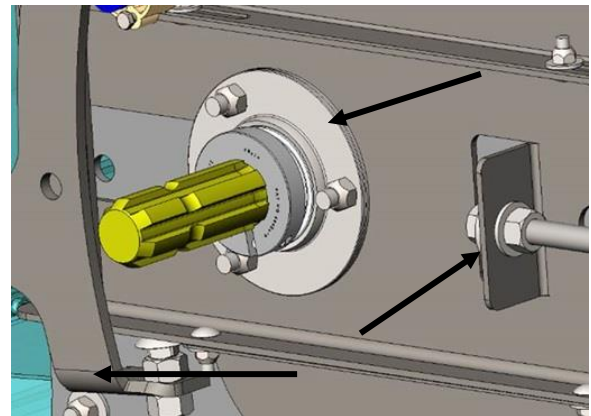

Figure 32
5. On the left-hand side remove the bearing flangette, limit stop bracket. Remove the mounting plate by removing the rear attachment bolt. Figure 32